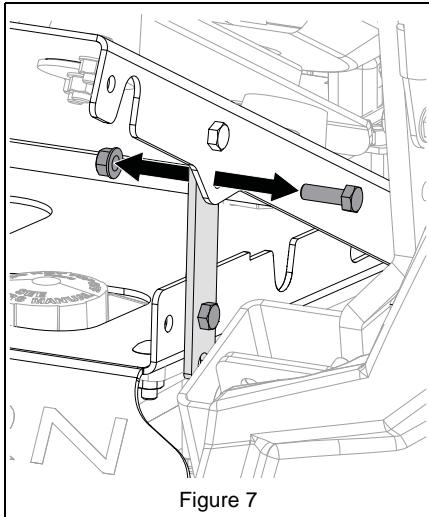

Figure 7
11. Remove and retain hardware securing seat to seat bracket. Repeat on opposite side of unit. See Figure 7.